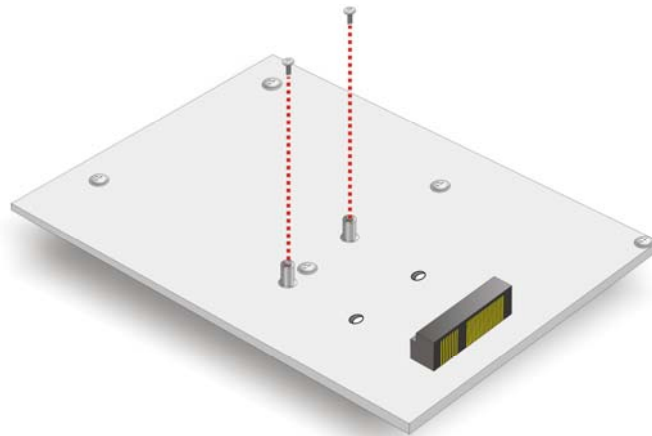

Figure 4-16: Remove the Retention Screws for the Full-size PCIe Mini Card
- Step 2:** **Remove the retention screws.** Remove the retention screws secured on the motherboard as shown in **Figure 4-16**.